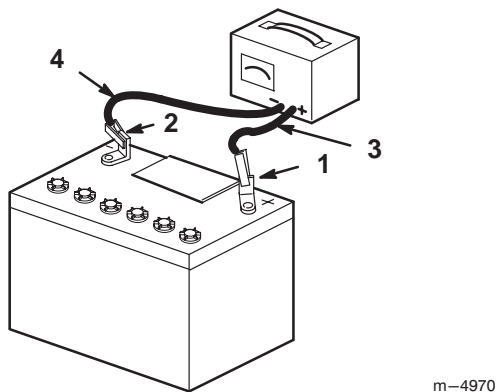

Figure 2
7. When the battery is fully charged, unplug the charger from the electrical outlet, then disconnect the charger leads from the battery posts (Fig. 2).